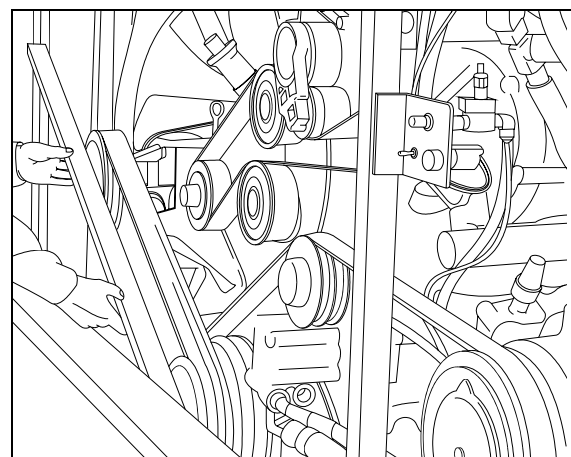

FIGURE 17: ENGINE COMPARTMENT
3. Using a straight edge, align the 3"V"pulley on gearbox central shaft pulley with engine pulley, while taking pulleys outer edge thickness under consideration i.e. 3"V"pulley's outer edge is thicker than that of engine pulley's (Fig. 17).